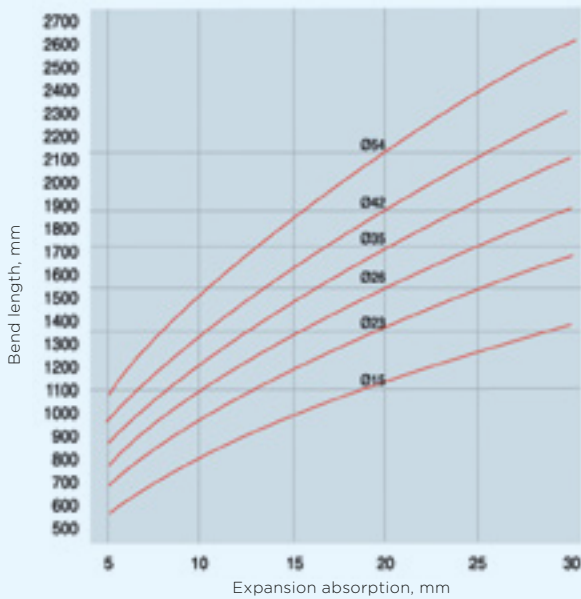

Fig. 10: Determining the band length for the Z bend expansion compensator.
- Calculation of the angular offset length (in the case of compensator of Fig. 10. Determining the band length for the Z bend expansion compensator)